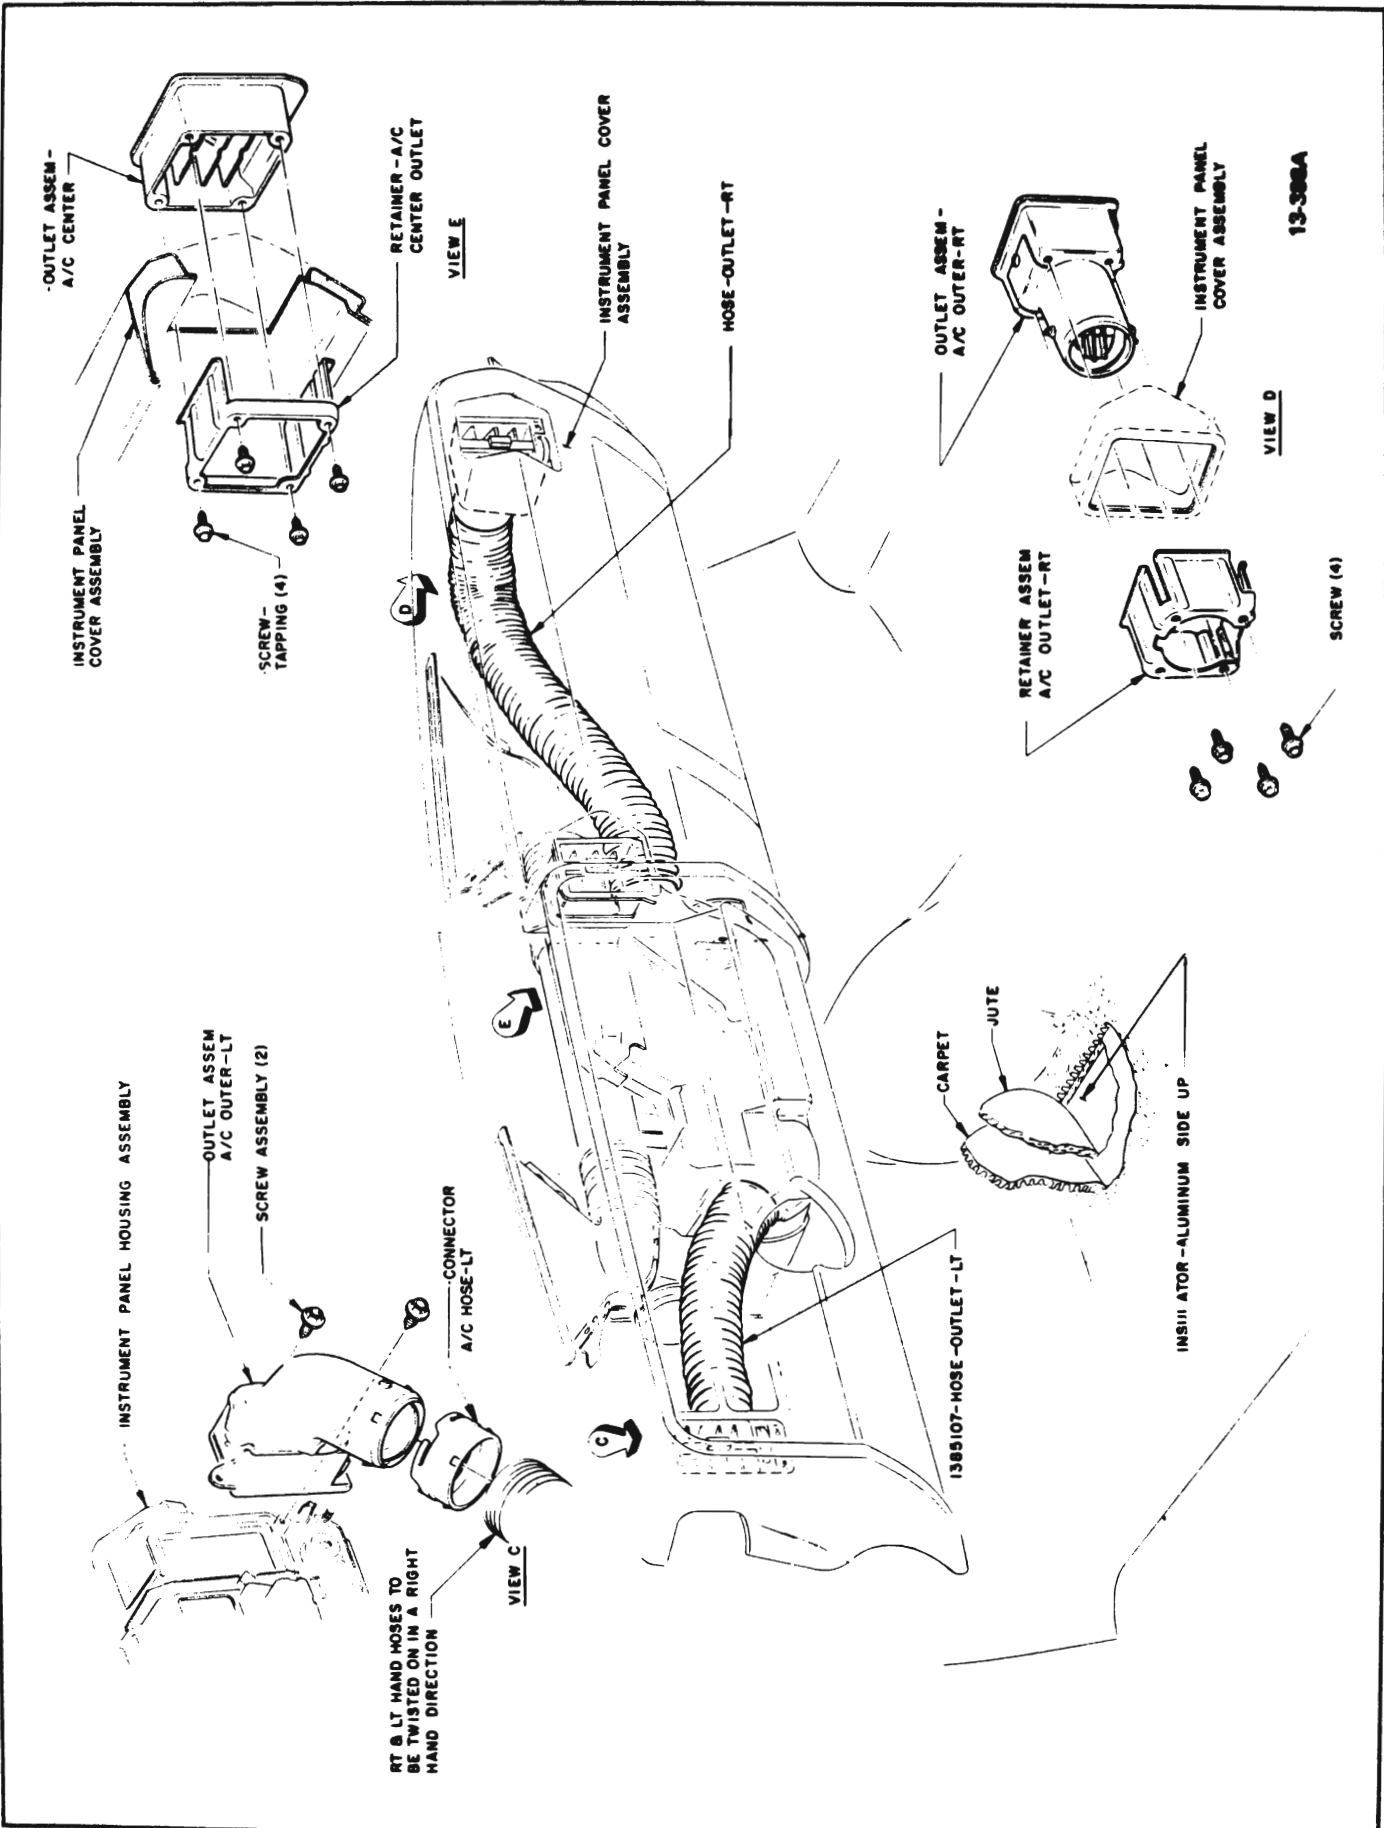

Figure 13-203 45-46-48000 Series
2. (45-46-48000 Series only) Remove right defroster hose. See Figure 13-203.